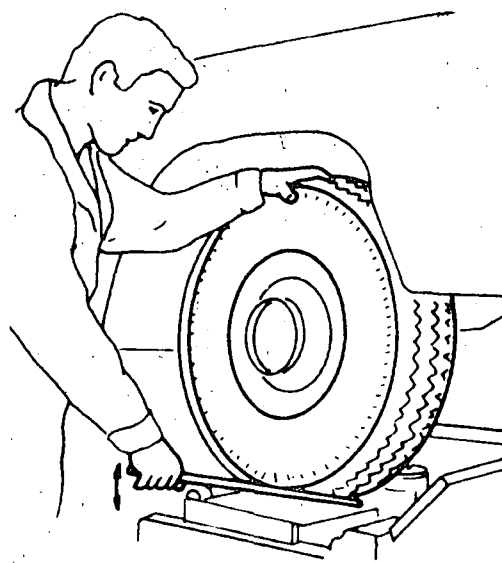

Fig. 4
d) Check the play of the ball joints by placing a lever between the tyre and the platform, and moving it up and down (fig. 4).